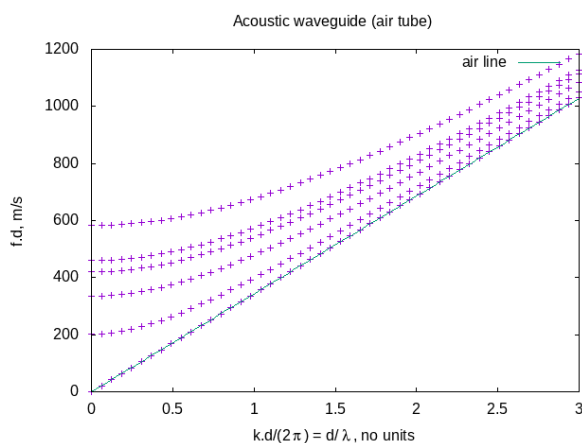

Figure 1: Dispersion relation of an acoustic waveguide.
2. Run the script and plot the dispersion relation. An example `wg.plt` gnuplot script is given to plot Figure 1. Comment the different modes that are obtained; are some of them degenerate? How does the dispersion depend on the diameter of the tube?